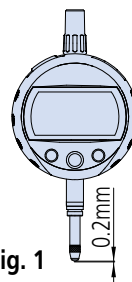

Fig. 1
4. When setting the zero point, retract the spindle at least 0.2mm from the rest position. (**Fig. 1**)